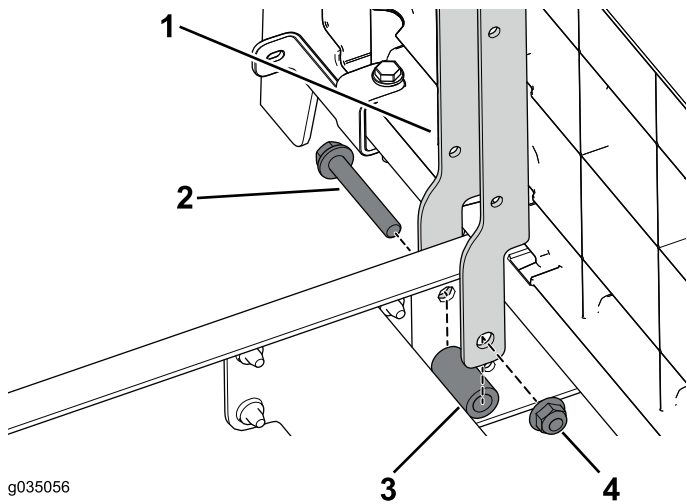

Figure 37
1. Use the 2 bolts (3/8 x 2-1/2 inches), spacers, and flange nuts to secure the seat supports on the front section of the machine (Figure 37).